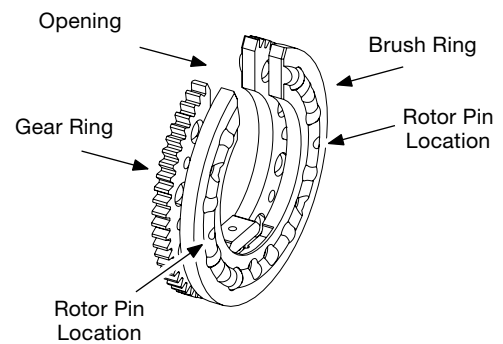

Figure 39 Placing the Rotor on the Work Surface
2. Place the rotor on a clean, dry surface with the rotor opening facing up. Separate the gear ring from the brush ring enough to clear the two rotor pins. See Figure 39.